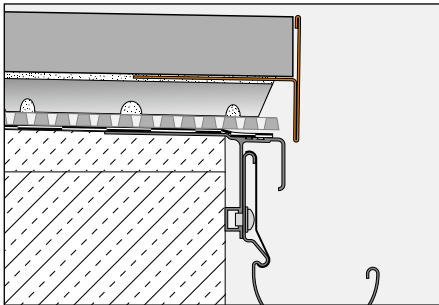

Fig. 3
- 3.3 The self supporting pavers are then laid onto the contact points. When using the stilted construction with Schlüter®-TROBA-STELZ-MR (Fig. 3), the profile Schlüter®-BARA-RT is integrated into the mortar point. The finishing profile covers the exposed edge of the cover assembly. The self supporting pavers are then installed on top of the stilted construction.